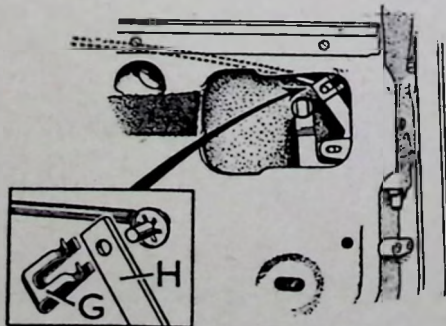

FIG. 12.—Rear door safety catch.
The lock unit is now free to be removed. If it is necessary to remove the rear safety catch assembly (Fig. 12), press the knob downwards into the locked position so that the clip (G) which holds the control wire to the actuating lever (H) can be detached.